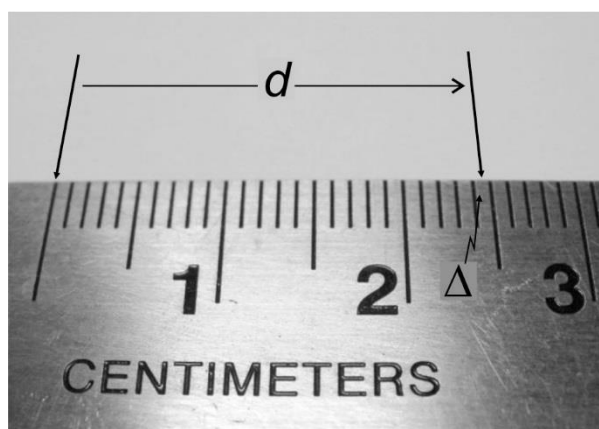

Figure 1 The distance a pointer moved through
3.1. Assume that the pointer in figure 1 slid along the ruler from the 0 mark up to the indicated position. How far did it move along the ruler? Include an estimate for the fraction of the millimeter distance, Δ , in your value for d . Give your answer in millimeters.